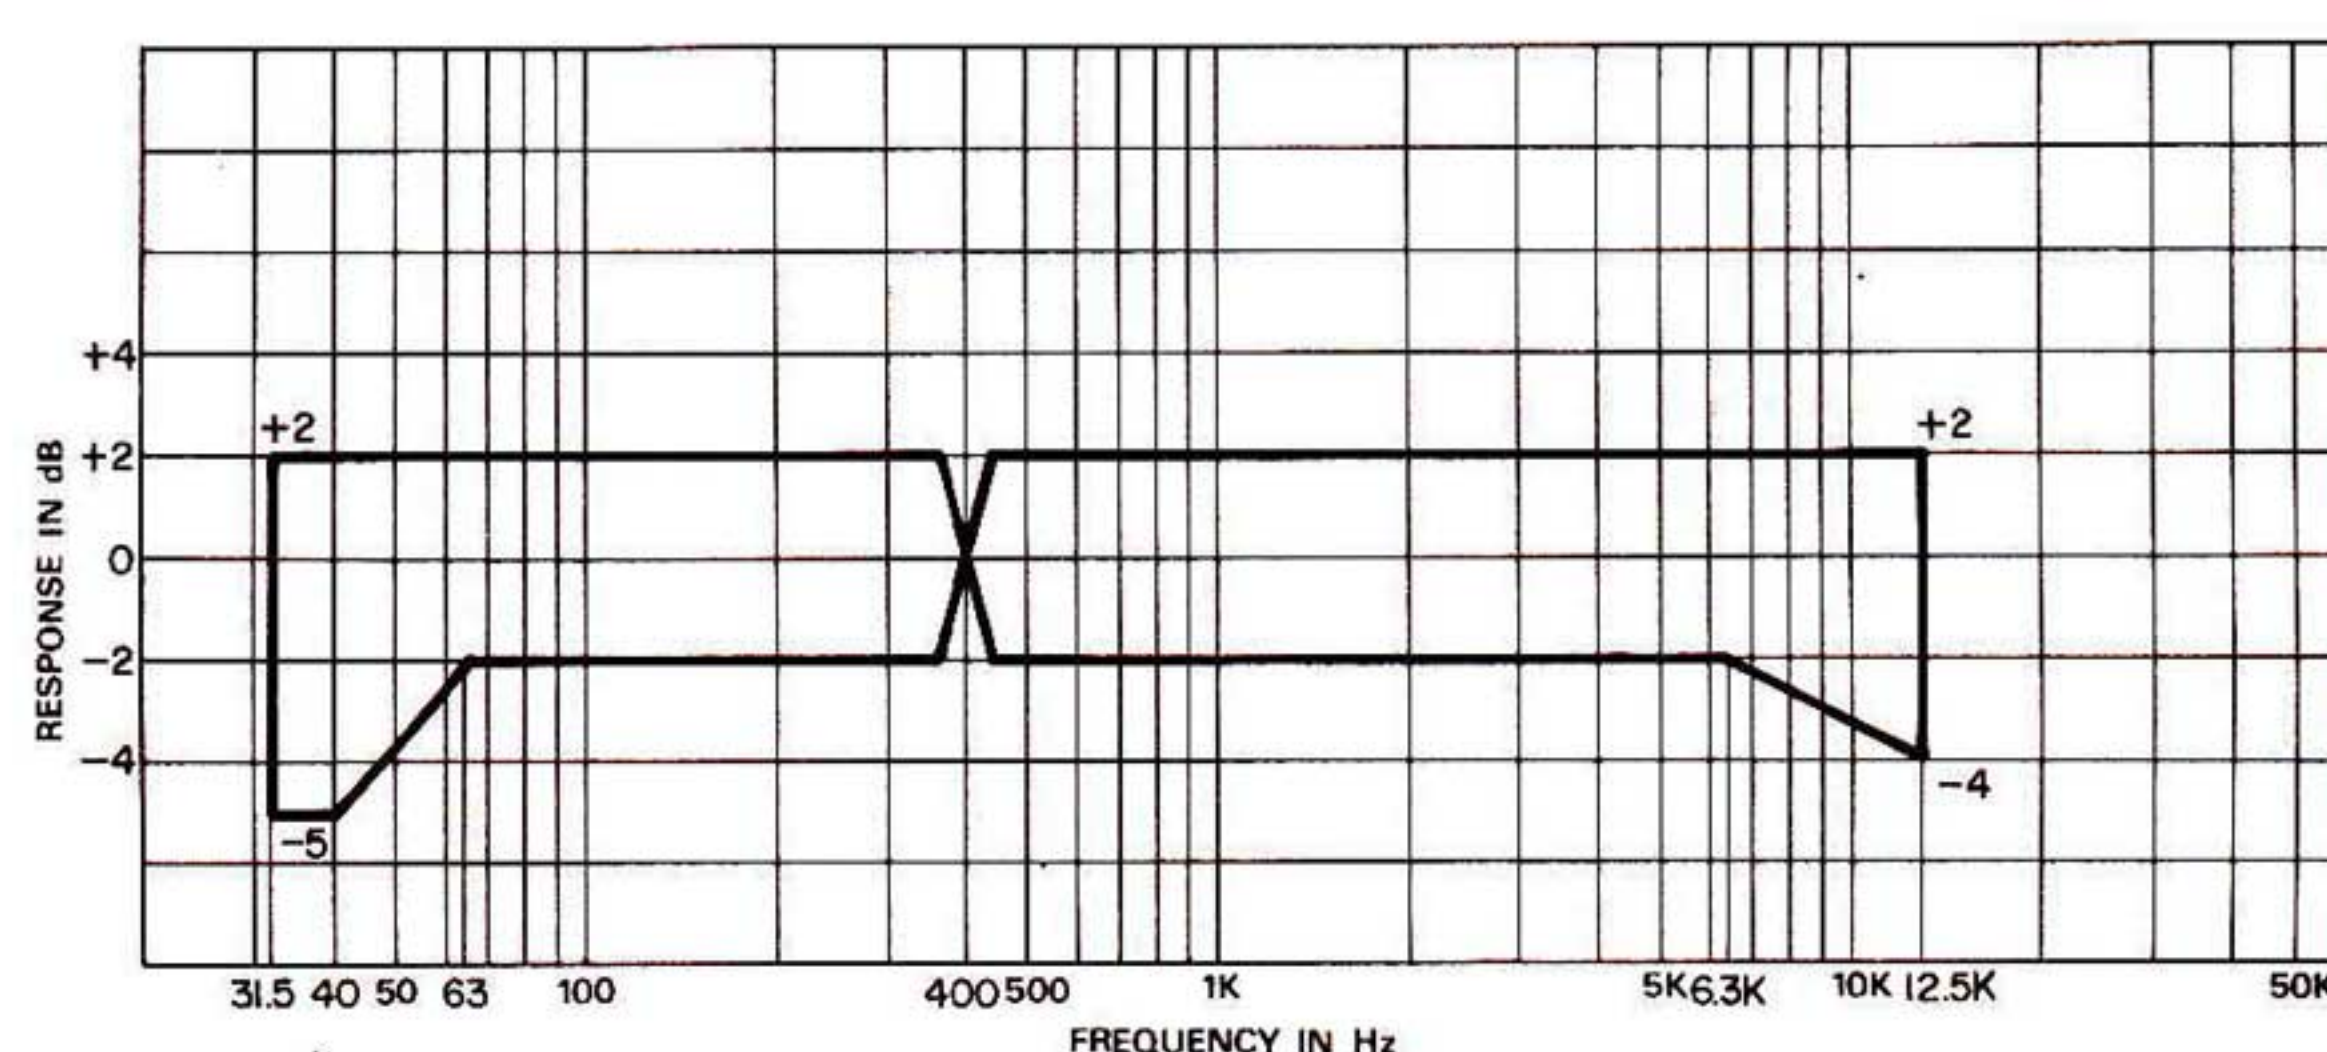

Fig. 6-12 Overall Frequency Response Limits for BIAS/EQ NORMAL
6. Check that the output levels for each frequency are within the level limits shown in Fig. 6-12.
7. If they are not, adjust L503/L603 slightly and then re-record all of the required frequencies again. Rewind and play the tape and again compare the output level against Fig. 6-12.
8. Repeat step 7 until the output signal complies with the limits given in Fig. 6-12.